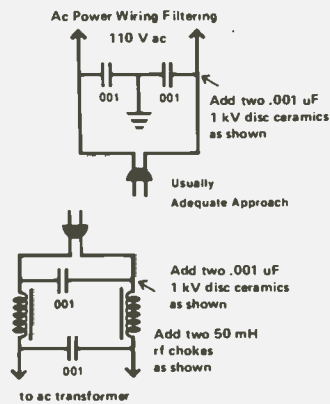

Fig. 5.
1. An ac power line rf filter should be installed to determine if the rf from the transmitter is entering the TV via the power cord. (A line filter may be either purchased or constructed by following the schematic in Fig. 5.)